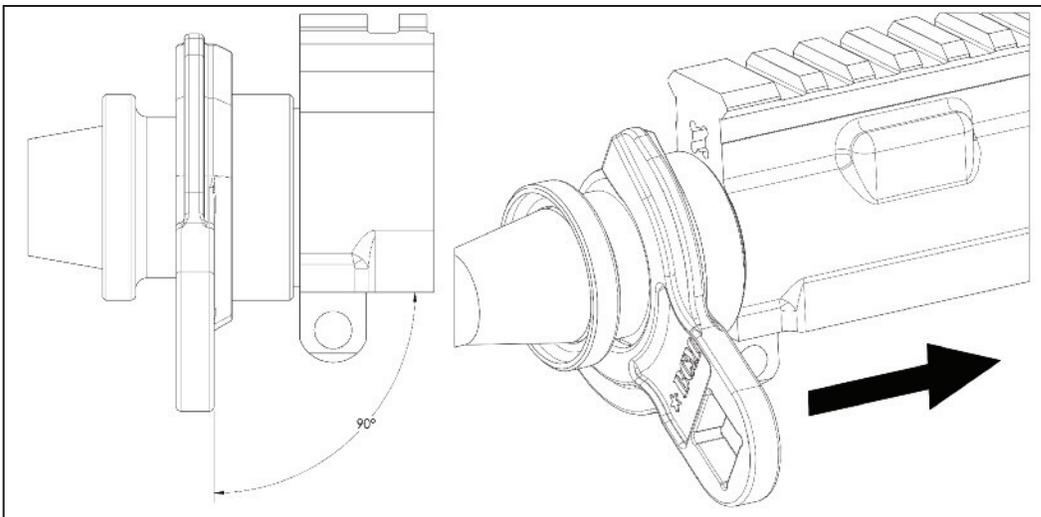

Figure 5
- Using the included wrench and a ½" drive torque wrench (see **Figure 5** for proper alignment and direction), properly align wrench and torque the KMR barrel nut to 20-30 ft-lbs while applying pressure to the wrench in the direction shown. and then loosen the barrel nut. Repeat this process a minimum of 4 times for optimal thread engagement and fit. **NEVER use the torque wrench for loosening the barrel nut. Final installation of the KMR barrel nut should be 40-50 ft-lbs.**